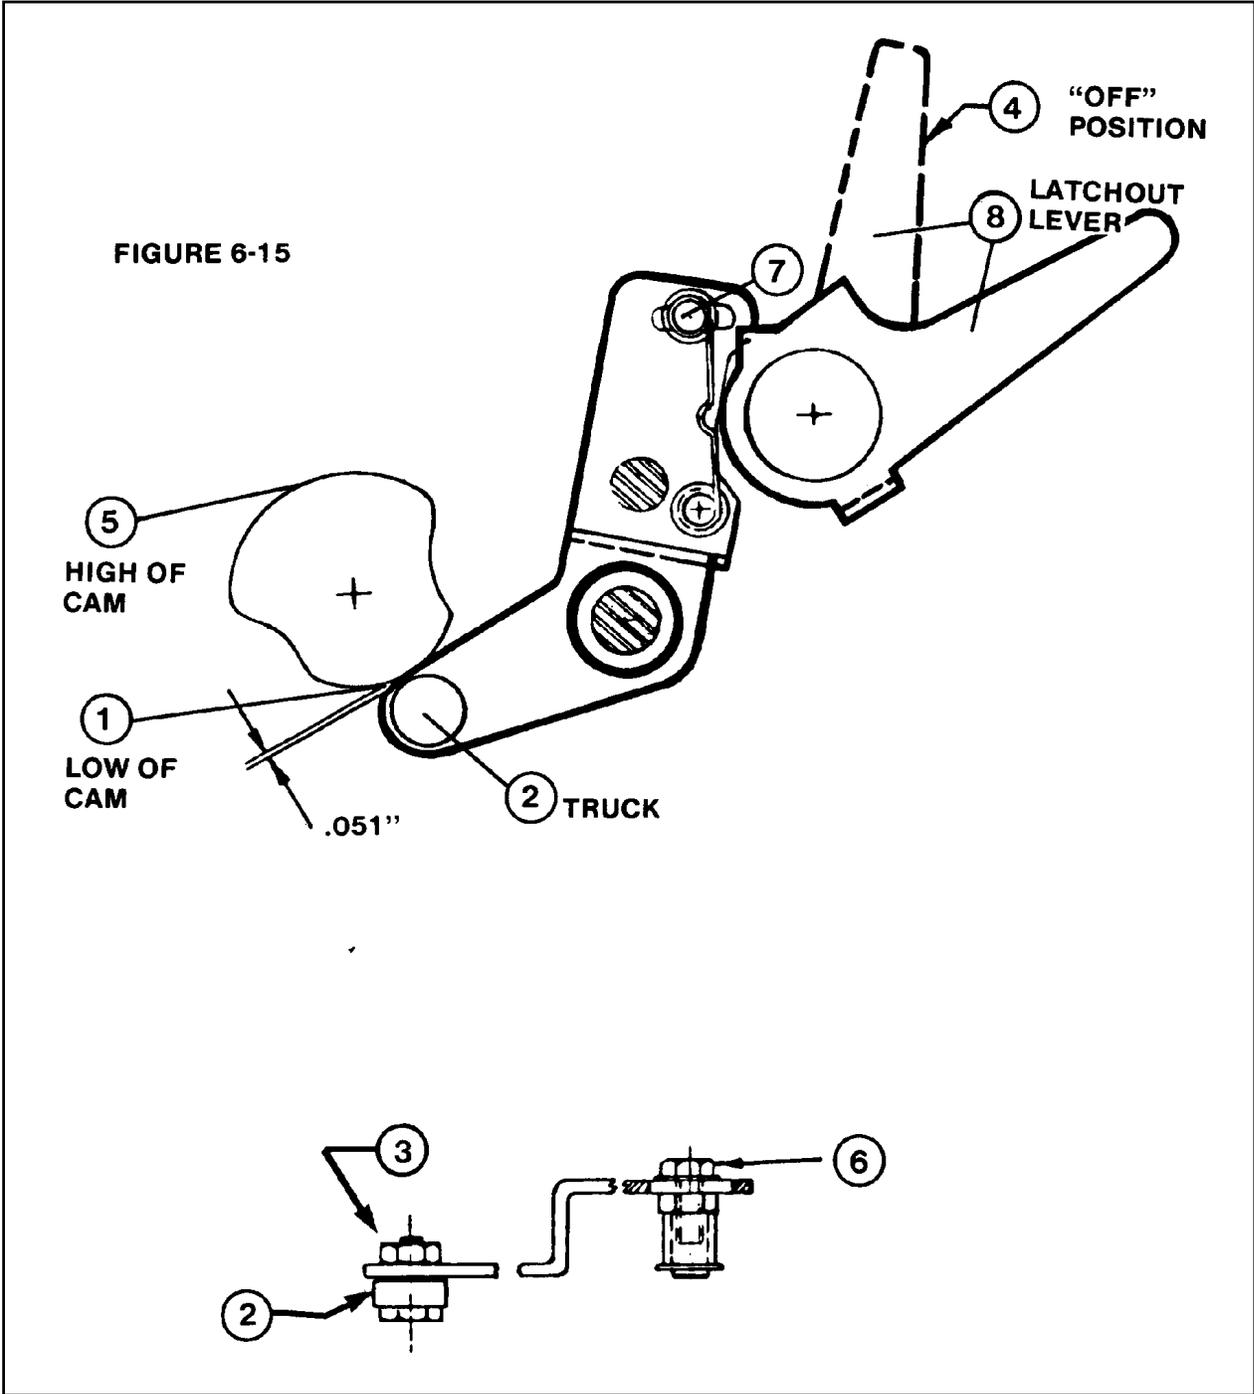

Figure 53 - Ducator Lever Truck to Cam and Ink Ducator Latchout
1. Rotate the cam to the center point of the "low" (1) in relation to the truck (2) (see Figure 53).
2. Loosen the nut (3) on the truck and stud assembly (2).
3. Rotate the stud on the truck assembly until a clearance of .051" is achieved between the truck (2) and the center of the "low" on the cam (1).
5. When the ink ductor latchout lever is in the "OFF" position (4), the ink ductor roller should remain in full contact with the distributor roller at all times.
6. To adjust, turn the handwheel until the ductor Cam is at its "high" point (5) holding the ink ductor roller against the distributor roller.